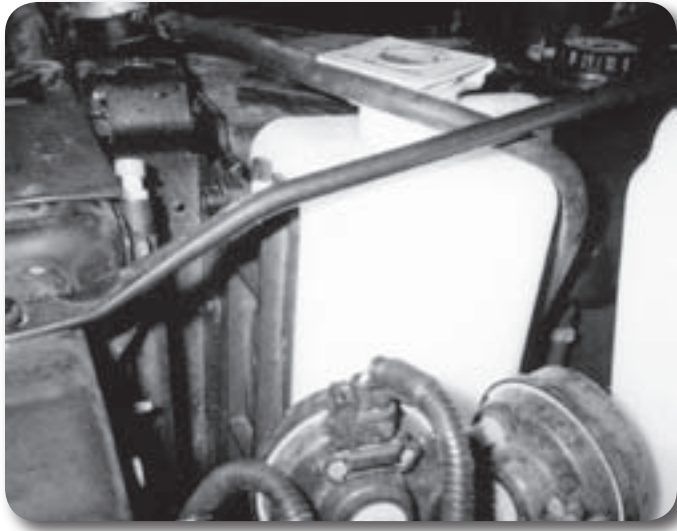

Figure 3
6. Remove the radiator overflow hose and overflow bottle from the fan shroud and remove them from the vehicle. (Figure 3).
7. Remove the four bolts mounting the fan shroud to the radiator and move the shroud back toward the engine, off of the radiator (Figure 3). Save hardware.